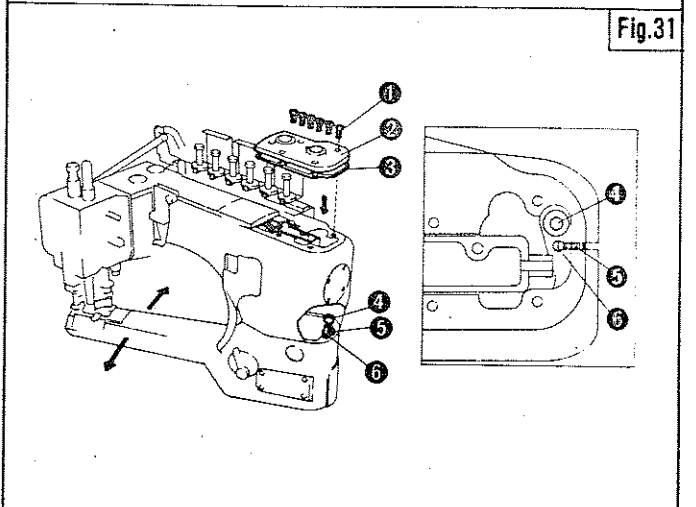

Fig.31
## CYLINDER ADJUSTMENT (Fig. 31)
(1) Refer to Fig.31 and remove ①~③ in sequence to take out Cover ②.
(2) To adjust Cylinder, loosen Screws ④ and ⑤ and turn ⑥.
• Turning ⑥ to the right will move Cylinder to the left.
• Turning ⑥ to the left will move Cylinder to the right.
• Keep Cover ② removed until Looper stroke adjustment is completed.